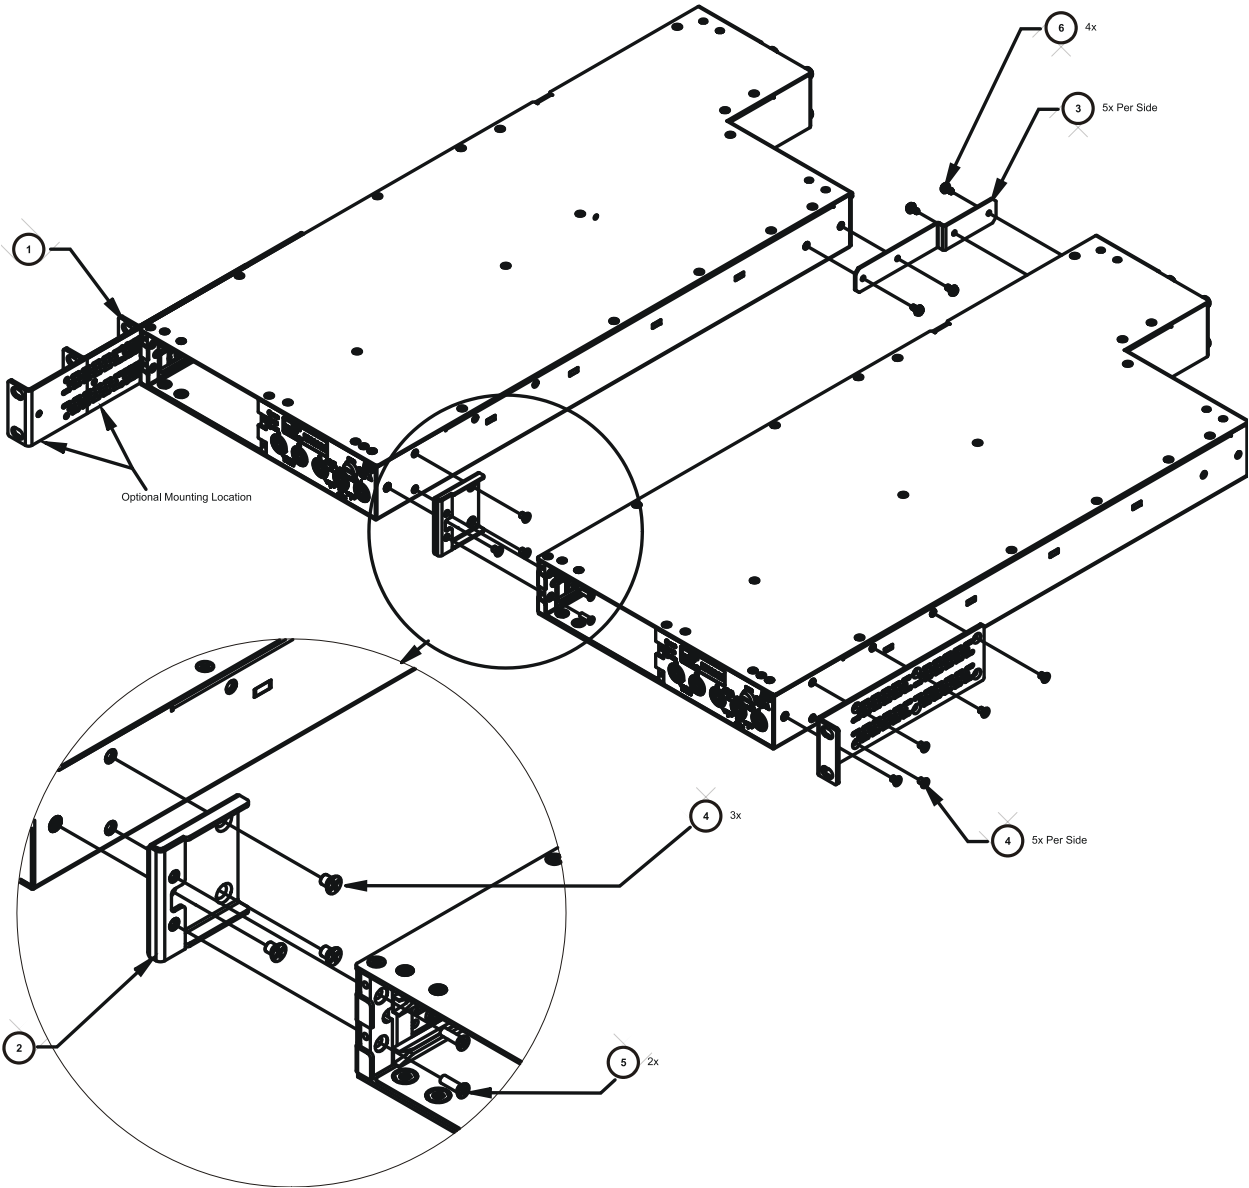

FIGURE 2-5: DUAL HALF RACK EAR INSTALLATION DIAGRAM (EXPLODED FRONT VIEW)
- 2) Using a #2 Phillips screwdriver, install the rack ears (P/N: 41-0482-009) on the front of the EX1200s using five (5) 6-32 x 3/8" flat head Phillips stainless steel screws (P/N: 37-0114-025) for each rack ear. One ear should be installed on the left side of one chassis, while the other ear is installed on the right side of the other chassis. Note that the "Optional Mounting Locations" in Figure 2-5 allow the EX1200 to be installed in a rack either flush or recessed.
- 3) Install the front mating bracket (P/N: 41-0493-006) on the right EX1200 using three (3) 6-32 x 3/8" flat head Phillips stainless steel screws (P/N: 37-0114-025).
- 4) Install the rear mating bracket (P/N: 41-0493-007) on the right EX1200 using two (2) 4-40 x 0.187 pan head Phillips screws (P/N: 37-0011-018).
- 5) Connect the two EX1200s by installing two (2) 4-40 x 3/8" flat head stainless steel Phillips screws (P/N: 37-0100-037) through the right EX1200 capture the front mounting bracket. Then, use two (2) 4-40 x 0.187 pan head Phillips screws (P/N: 37-0011-018) to connect the rear mating bracket to the right EX1200.